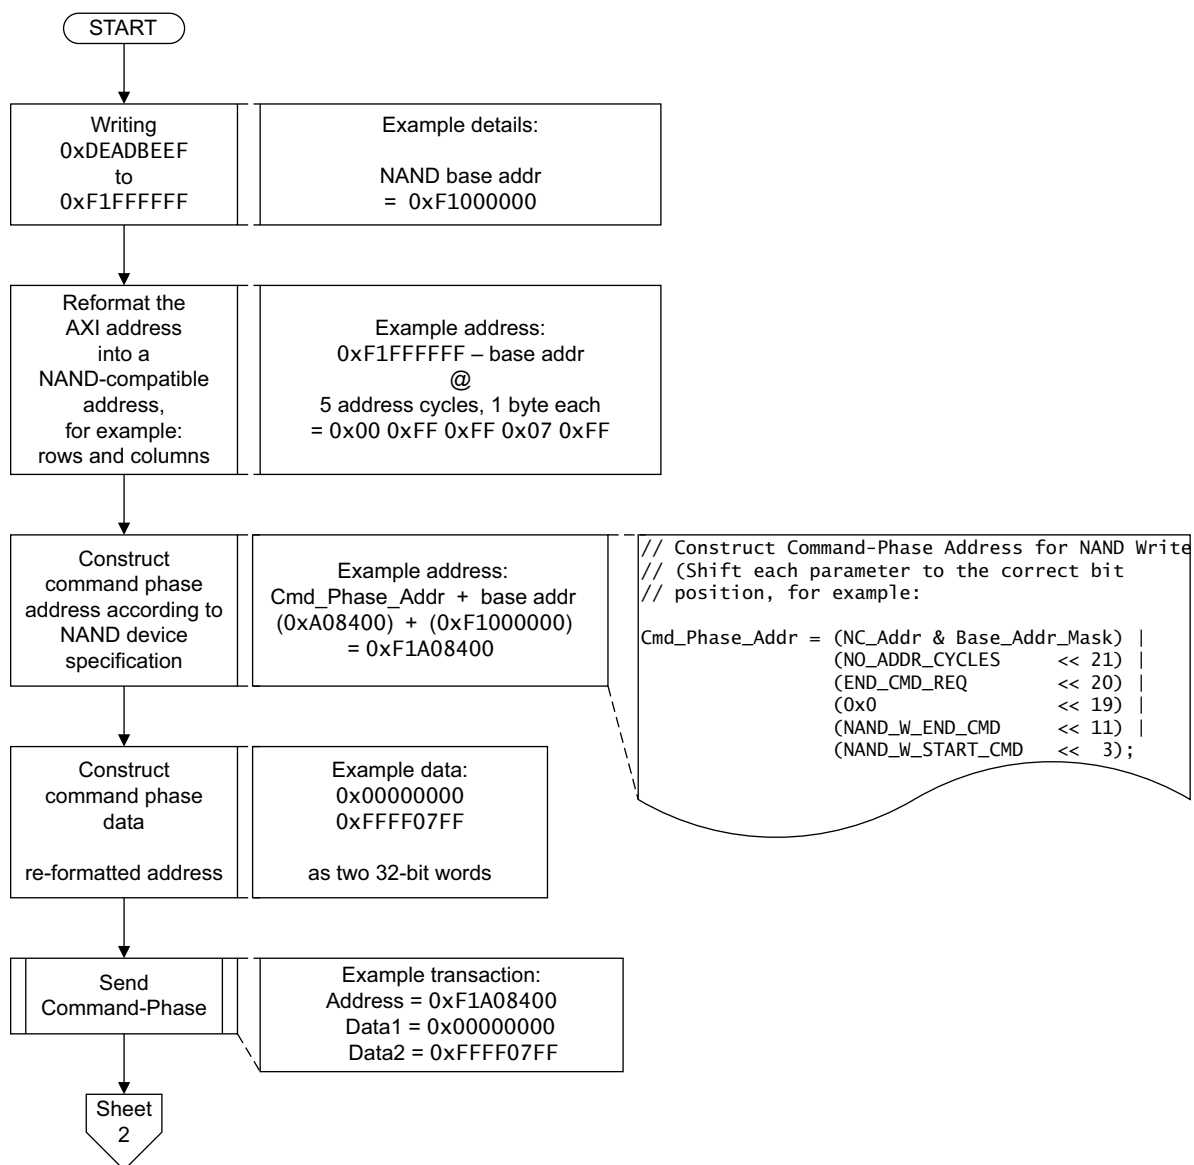
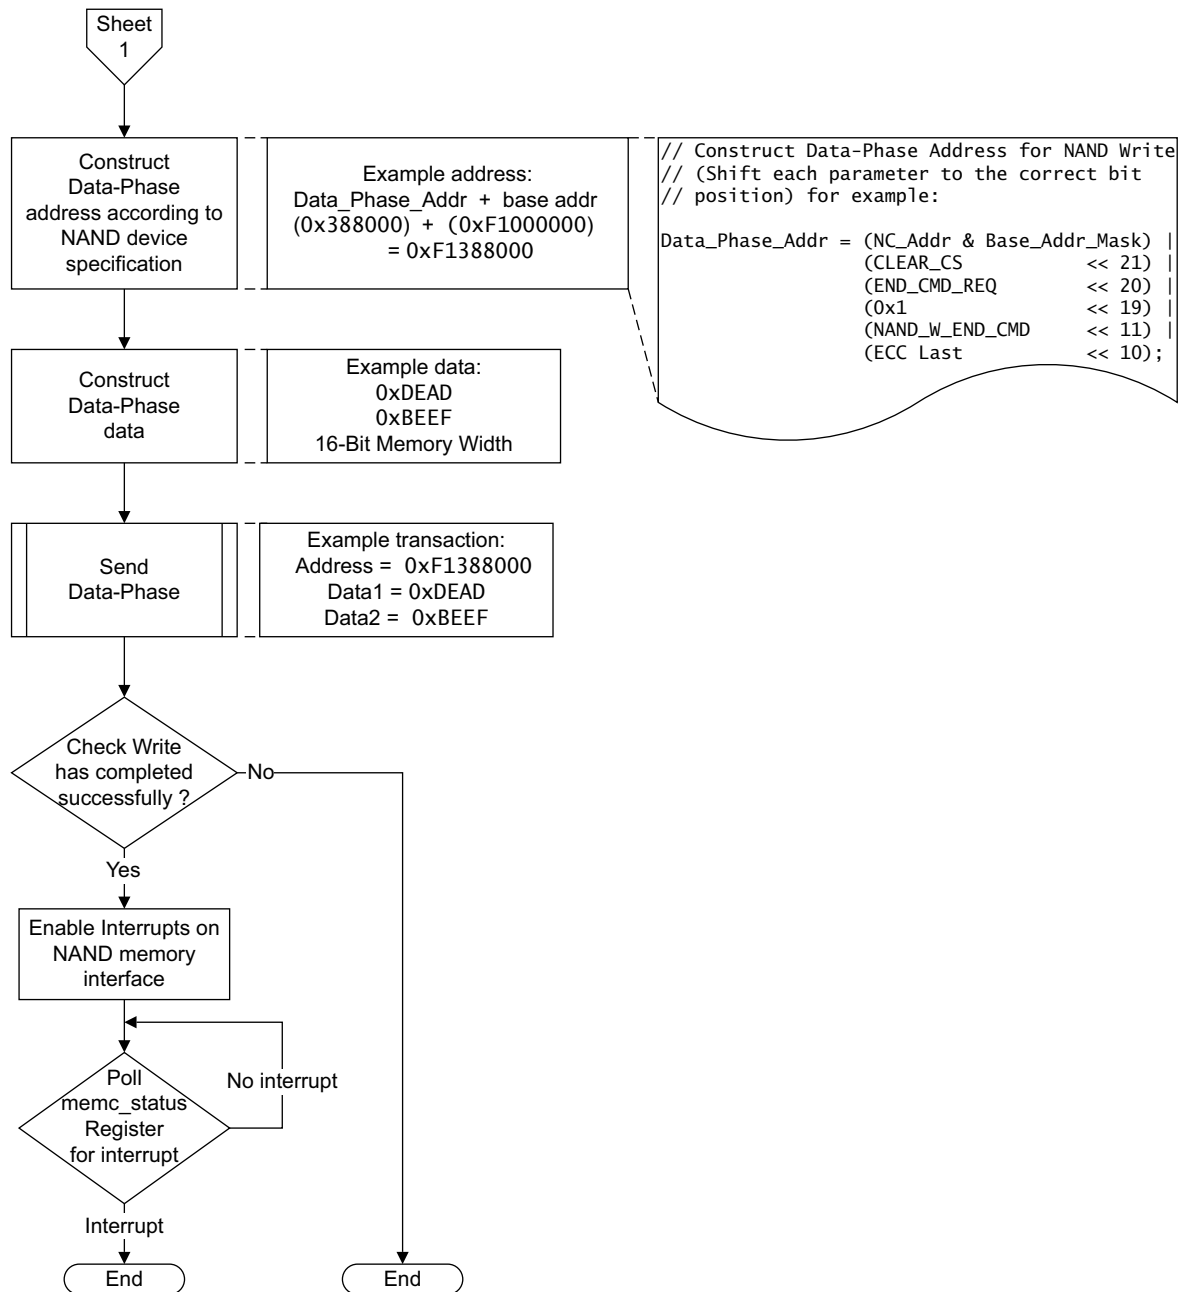

Figure 5-5 NAND write sheet 1 of 2
Figure 5-6 NAND write sheet 2 of 2
- Figure 5-5 on page 5-6 to Figure 5-6 on page 5-7.